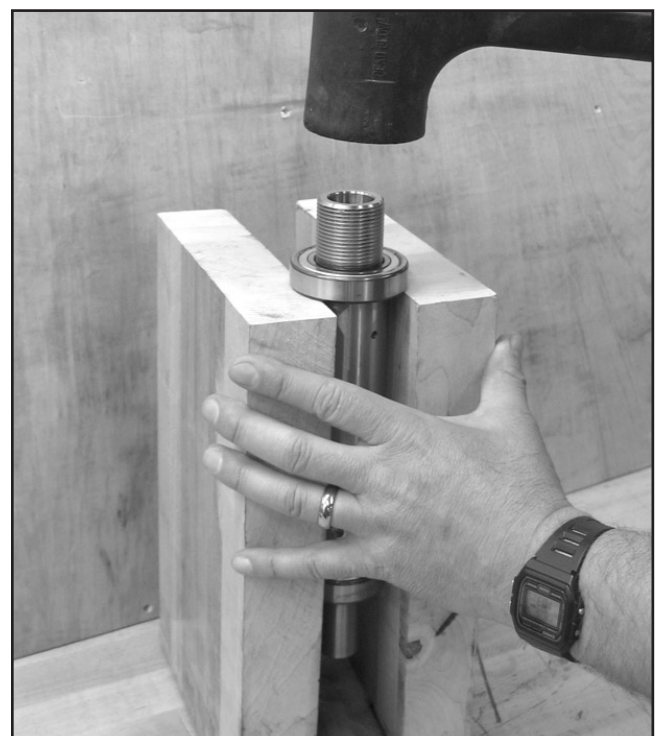

Figure 9. Removing the bearings.
12. Place two blocks of wood with equal dimension against the spindle with one of the bearings resting on top. Place as many shop rags as needed under the spindle to cushion the spindle when the bearing is removed. Use a dead blow hammer to lightly tap the spindle to remove the bearing, as shown in **Figure 9**.